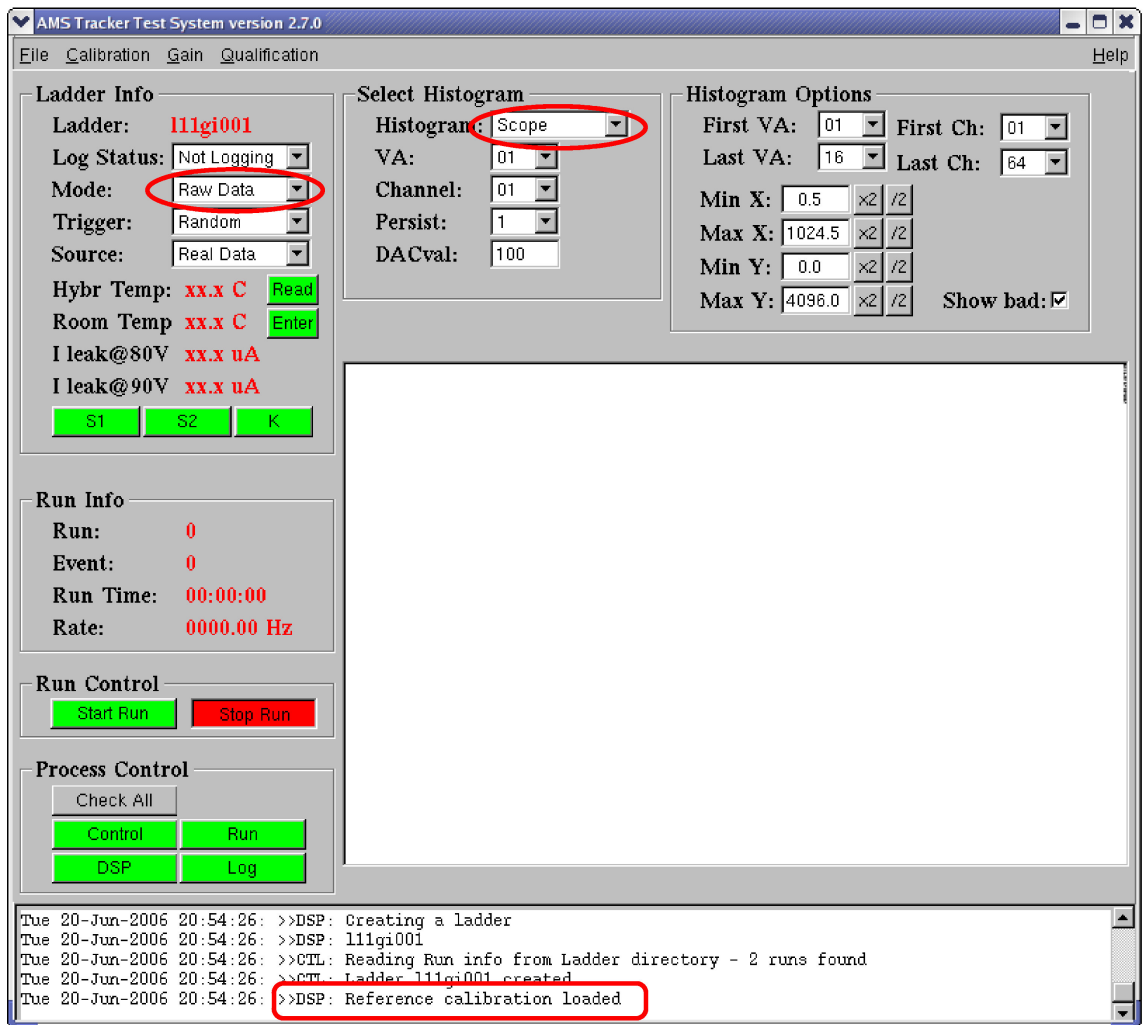

Figure 6: TDR program: reference calibration message, acquisition mode and displayed histogram settings are shown.
5. Check that the TDR program loaded the reference calibration (see figure 6).
6. Start a run in `Raw Data` mode, displaying the `Scope` histogram (see figure 6).